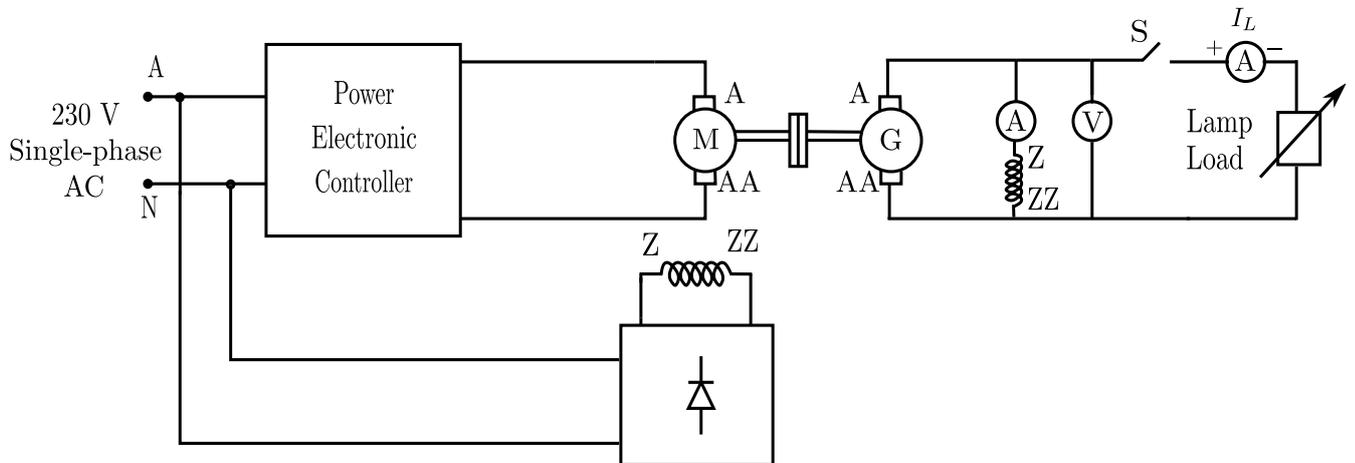

Figure 3: Circuit diagram for self-excited DC generator
- A. Connect the circuit diagram as shown in Fig.3 (you need to connect the field winding across the armature instead of connecting it to a separate supply).